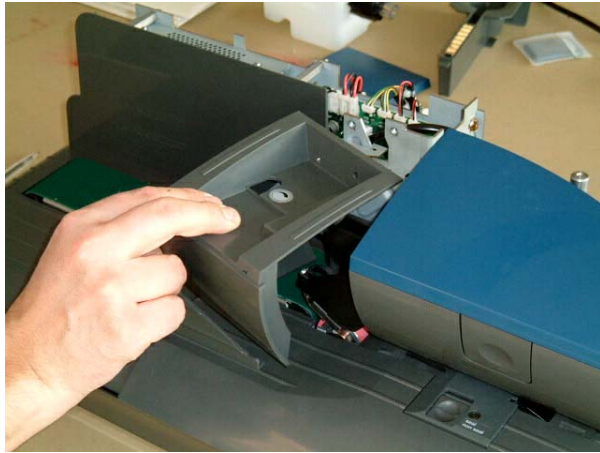

Fig.10
- Slide the gray cover back and remove (Fig.10)